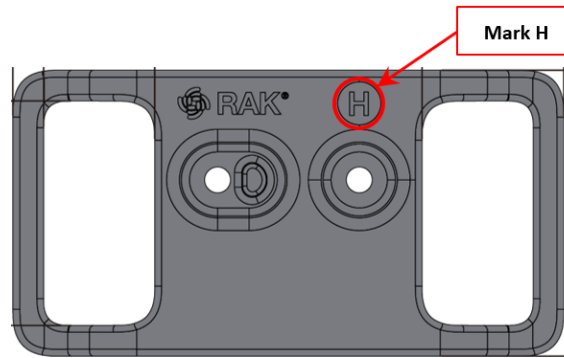

Figure 30: Mount accessory marked with letter H
1. For belt loop mount, use two (2) pieces of mount accessories with an indicator marked with the letter **H**, as shown in **Figure 30**.